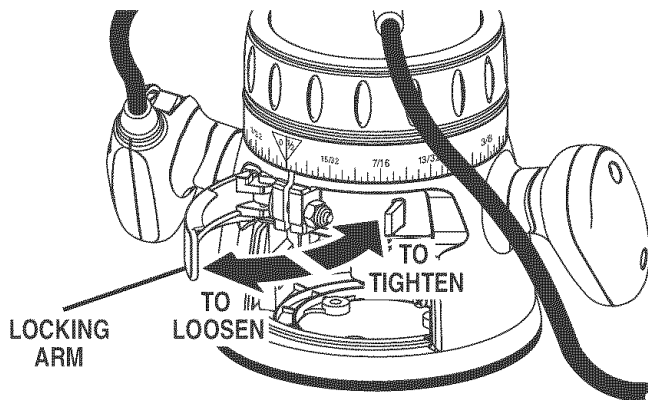

Fig. 3
See Figures 3, 4, 5, and 6.
- Place router on a flat surface and loosen locking arm. See Figure 3.